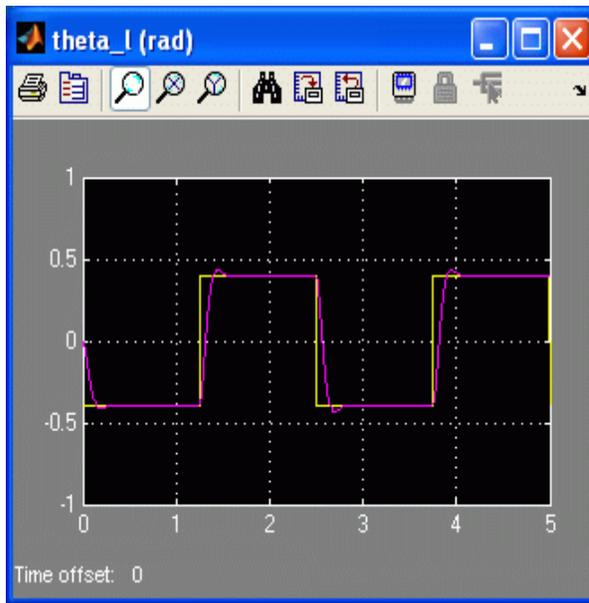

Figure 8: Ideal PV position response.
5. Open the load shaft position scope, *theta\_l (rad)*, and the motor input voltage scope, *Vm (V)*.
6. Start the simulation. By default, the simulation runs for 5 seconds. The scopes should be displaying responses similar to figures 8 and 9. Note that in the *theta\_l (rad)* scope, the yellow trace is the setpoint position while the purple trace is the simulated position (generated by the *SRV02 Model* block). This simulation is called the *Ideal PV* response as it uses the PV compensator with the derivative block.
10. Start the simulation. The response in the scopes should still be similar to figures 8 and 9. This simulation is the called the *Filtered PV* response as it uses the PV compensator with the high-pass filter block.